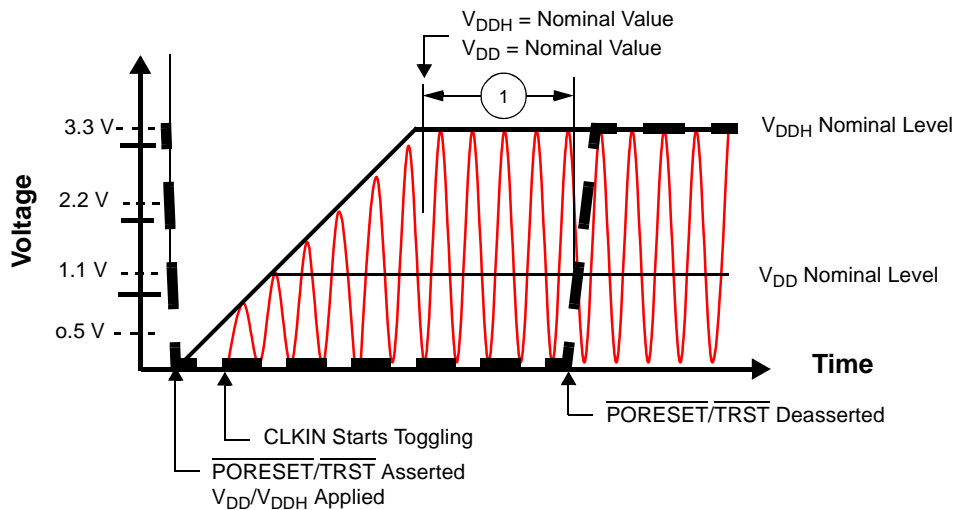
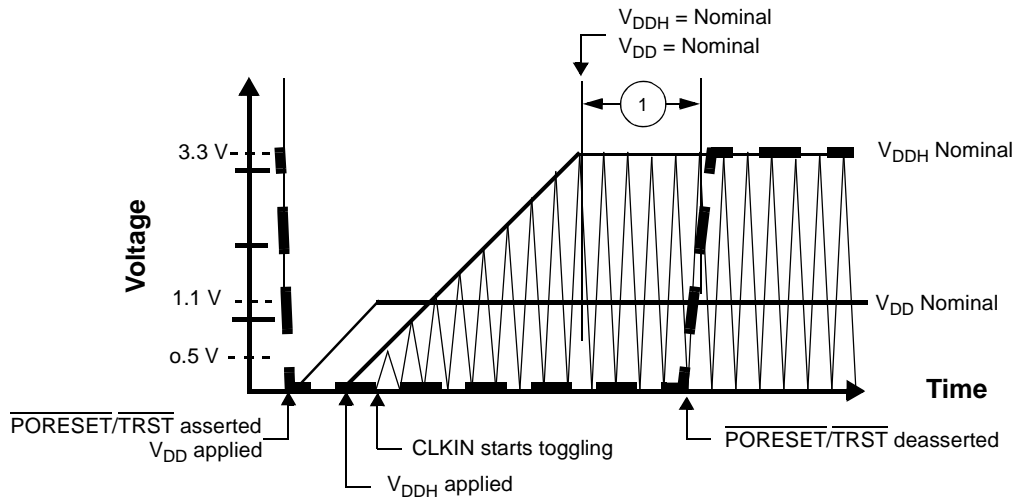

Figure 6. Start-Up Sequence: V_{DD} and V_{DDH} Raised Together
Figure 7. Start-Up Sequence: V_{DD} Raised Before V_{DDH} with $CLKIN$ Started with V_{DDH}
- If possible, bring up the V_{DD} and V_{DDH} levels together. For designs with separate power supplies, bring up the V_{DD} levels and then the V_{DDH} levels (see **Figure 7**).
- CLKIN should start toggling at least 16 cycles (starting after V_{DDH} reaches its nominal level) before $\overline{\text{PORESET}}$ deassertion to guarantee correct device operation (see **Figure 6** and **Figure 7**).
The following figures show acceptable start-up sequence examples. **Figure 6** shows a sequence in which V_{DD} and V_{DDH} are raised together. **Figure 7** shows a sequence in which V_{DDH} is raised after V_{DD} and CLKIN begins to toggle as V_{DDH} rises.